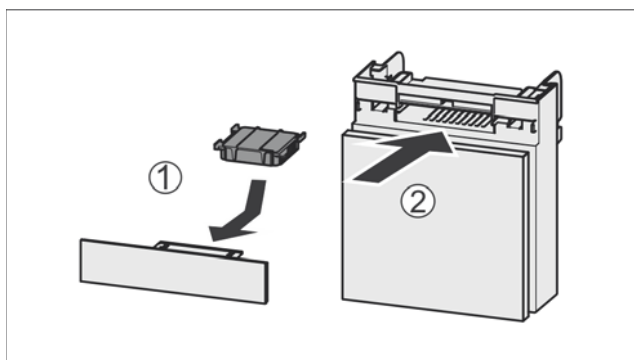

Fig. 36
- Insert the carbon filter as shown in the diagram Fig. 36 (1).
- Push the compartment in Fig. 36 (2).